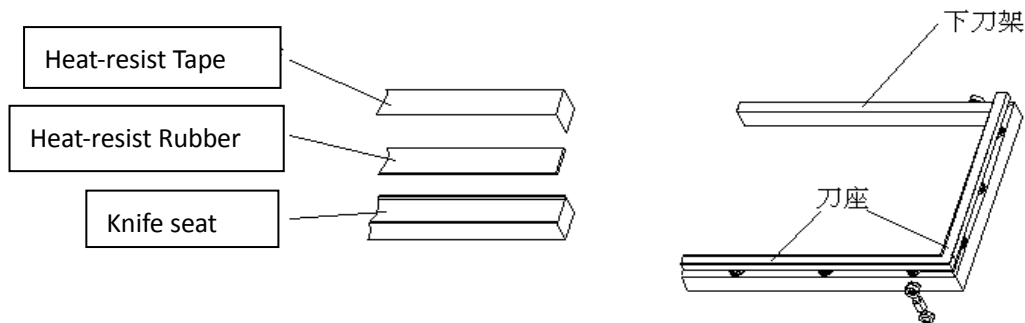

Figure7.3
- (1) turn off the power, until the electric tube cooling, tear off the heat-resistant tape (Figure 7.3).
- (2) Remove the heat-resistant rubber, replace the new one and make it match with the knife seat concave side, to ensure its surface is flat, and then remove the excess part.
- (3) affixed the heat-resistant tape, pay attention to the tape must be flat and